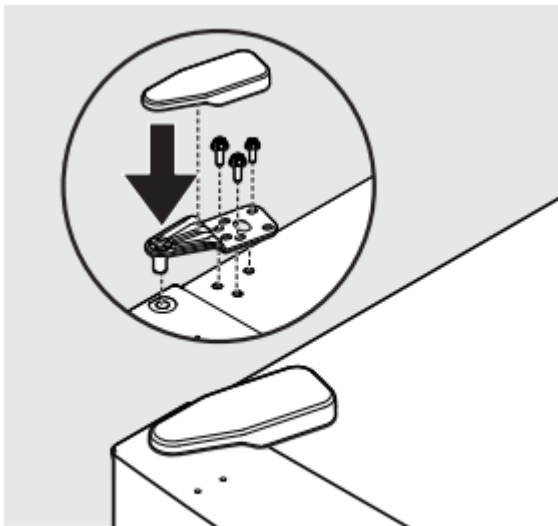

Figure 7
13. Attach the upper hinge using the three 5/16" screws. Replace the hinge cover. Plug in electrical power cord (see Figure 7)